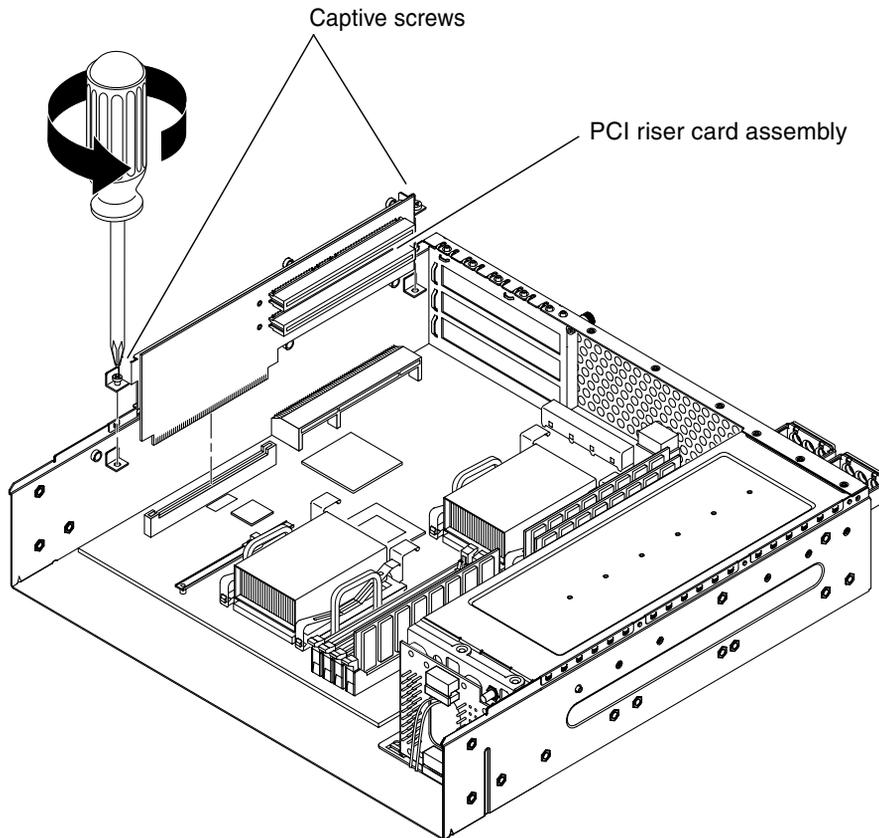

FIGURE 5-11 Removing the PCI Riser Card Assembly
7. **Using a No. 2 Phillips screwdriver, unscrew the two captive screws that secure the PCI riser card assembly to the system board (FIGURE 5-11).**
8. Pull the PCI riser card assembly straight up to detach it from the system board (FIGURE 5-11).
18. Place the PCI riser card assembly in position in the server (FIGURE 5-11).
- b. Tighten the two captive screws that secure the PCI riser card assembly to the system board (FIGURE 5-11).